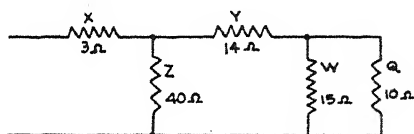

FIG. 46. A typical network or compound circuit.
**50. Resistance Networks.** Sometimes circuit parts are connected both in parallel and in series. Such a circuit, as shown in Figure 46, is possible in radio sets or transmission systems. But in these networks, or compound circuits as they are also known, the simple rules of series and parallel circuits still hold good, when properly applied.
In all cases where the total resistance is desired, merely begin at the "closed" end of the diagram (*W* and *Q*) and work toward the other end in simple parallel or series units of the circuit. The case shown in Figure 46 will be solved thus, as an example: